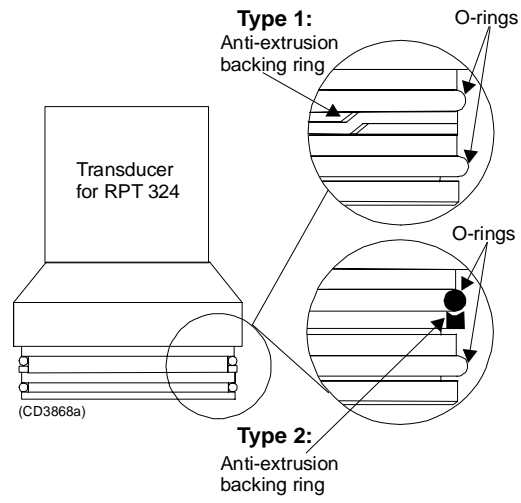

Figure 13 - Fitting the anti-extrusion backing rings
- b Ensure that the angled ends of the ring meet as shown in figure 13.
- a Place the ring with the curved side towards the O-ring as shown in figure 13.